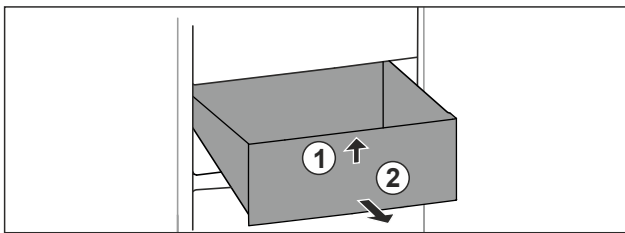

Fig. 64
- ▶ Lift up drawer at the front. Fig. 64 (1).
- ▶ Remove drawer to the front. Fig. 64 (2).